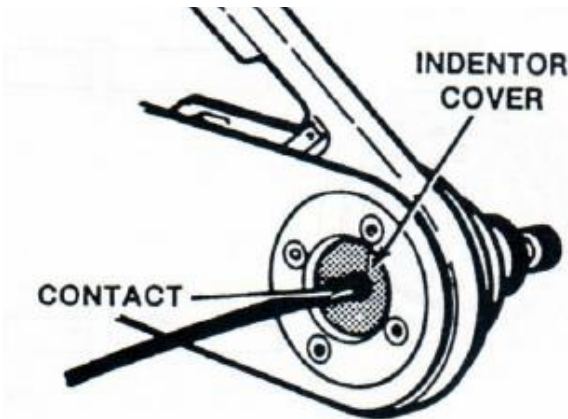

Figure 209
19. Release the handle and removed the crimped contact and wire. Figure 209